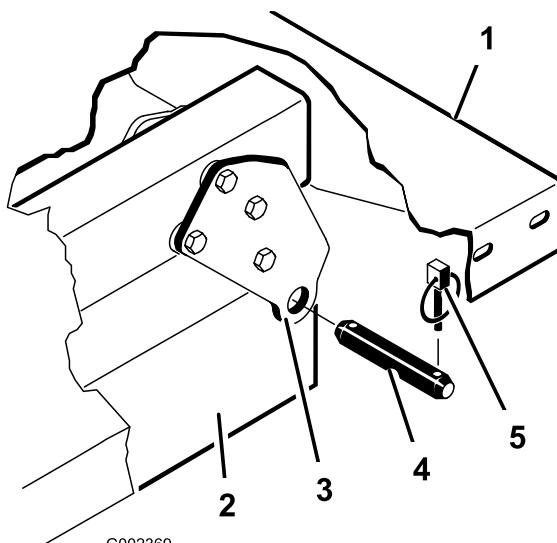

Figure 4
6. Remove the lynch pins and clevis pins securing the pivot brackets to the frame channels (Figure 4).